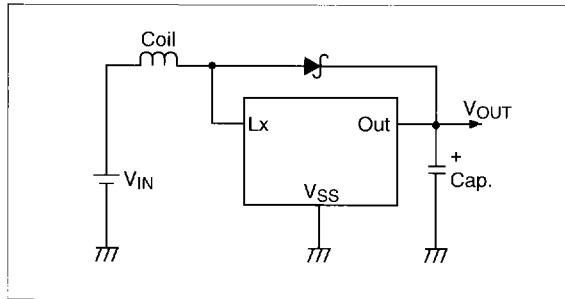

Figure 1. TC181BXX
- 1B: Internal (see Fig. 1)
**TC181B30:** VOUT = 3V, VIN = 2V, VSS = 0V, IOUT = 10mA, TA = 25°C, unless otherwise specified. (See Fig. 1)
**TC181B50:** VOUT = 5V, VIN = 3V, VSS = 0V, IOUT = 10mA, TA = 25°C, unless otherwise specified. (See Fig. 1)